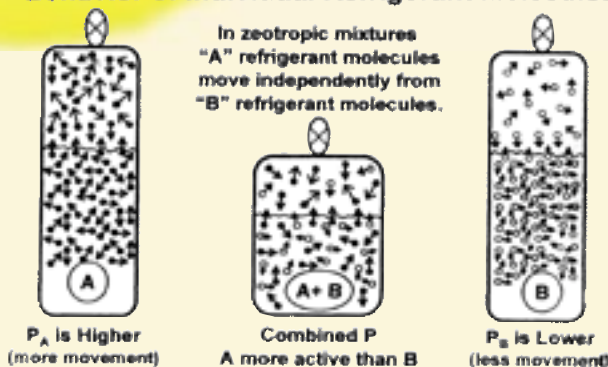

Figure 1: Behavior of individual refrigerant molecules
Consider two refrigerants A & B in their respective cylinders as shown in the Fig. 1. The cylinder at the extreme left contains Refrigerant 'A' whilst the cylinder at the extreme right contains Refrigerant 'B'.
Referring to Fig. 1, the following may be observed:
- When the two refrigerants are mixed, say, in a 50-50 proportion by weight as shown in the cylinder in the middle of the Fig. 1, it can be seen that molecules of both 'A' and 'B' constantly move from liquid to vapour and vice versa at the surface of the liquid. Refrigerant 'A' however will transfer back and forth to the vapour at a higher rate or speed than 'B' due to reasons explained in (a) above.